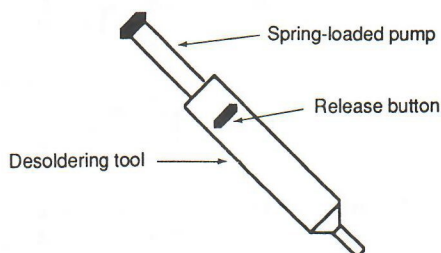

Figure 4-10 Vacuum desoldering tool. Typical tools have a spring-loaded pump and a release button.
4. While you're waiting for the iron to heat up (it'll take about five minutes), practice with the vacuum desoldering tool. As shown in Figure 4-10, it has a spring-loaded pump and a release button.